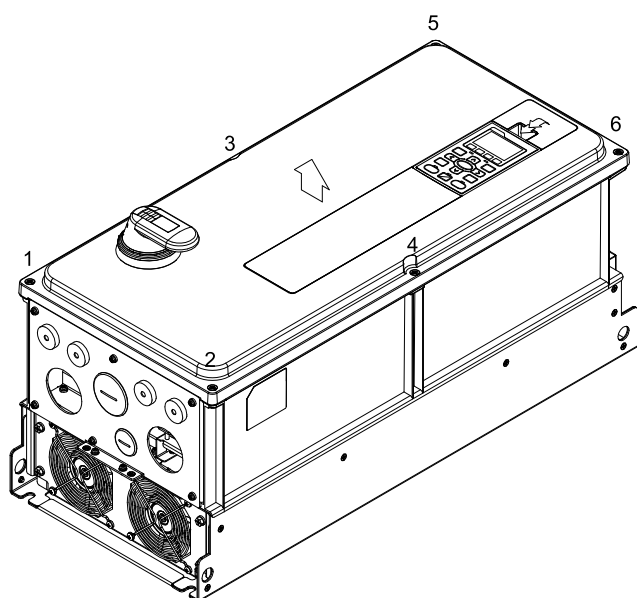

Figure 7-66
1. Press the hook in the top of digital keypad, and then rotate to remove the digital keypad. (Refer to Figure 7-66)